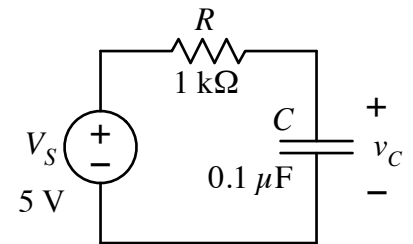

Fig. 3
1. Build the circuit shown in Fig 3. (A  $0.1\text{-}\mu\text{F}$  capacitor capacitor is labeled as 104. The lab instructor can help you identify the right part.)